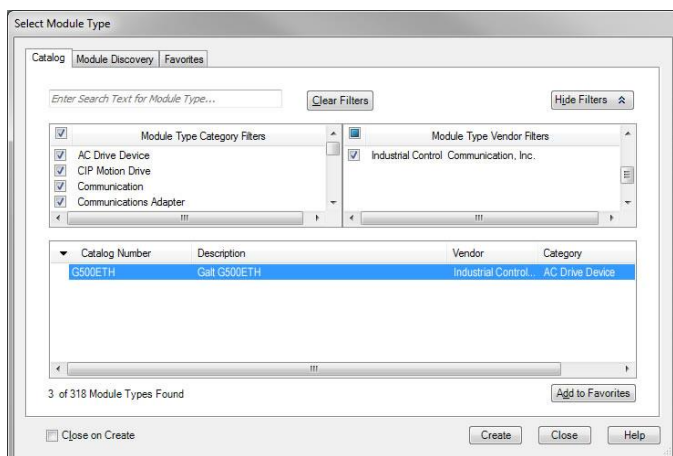

Figure 23: Adding a New Interface Card Module
- 11) Find the interface card in the "Select Module" dialog box as shown in Figure 23.